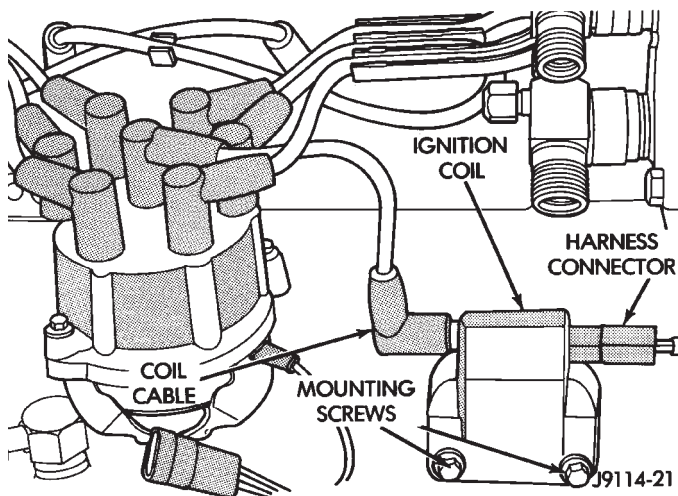

Fig. 32 Ignition Coil—4.0L Engine
The ignition coil is mounted to a bracket on the side of the engine to the front of the distributor (Fig. 32).
- (1) Disconnect the ignition coil secondary cable from ignition coil (Fig. 32).
- (2) Disconnect engine harness connector from ignition coil.
- (3) Remove ignition coil mounting bolts (nuts may also be used on back side of bracket).
- (4) Remove coil.